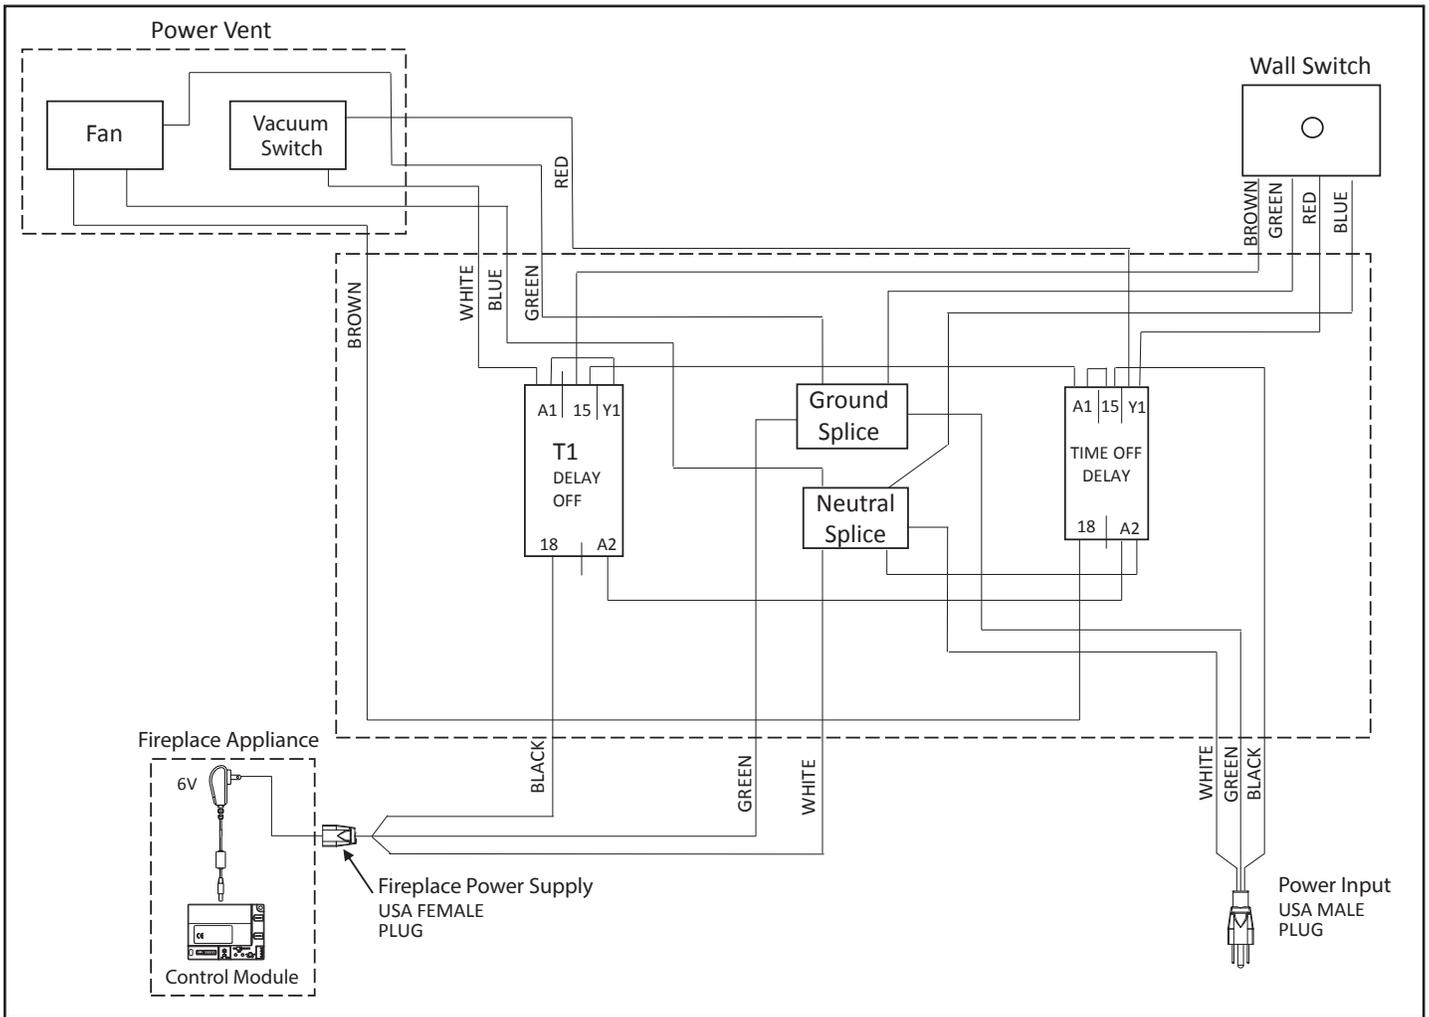
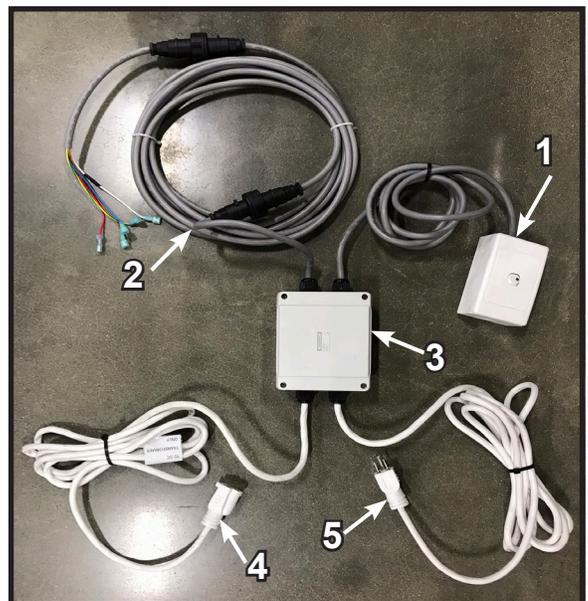

Figure 4.1 Wiring Diagram
Figure 4.2
Figure 4.1 below shows a wiring diagram of the PVLP-SLP-AU wiring harness.
Figure 4.2 shows a photo of the PVLP-SLP-AU wiring harness and timer control junction box. This harness contains all wiring shown in Figure 4.1 wiring diagram. Below describes each wire harness coming from the timer control junction box. Reference numbers in Figure 4.2.
4. Connect extension cord lead from termination cap to female plug (number 2 in Figure 4.2).
5. Unplug 6V transformer from fireplace power cord. Run plug for 6V from timer control junction box inside the fireplace and plug 6V transformer in (number 4 in Figure 4.2).
6. Plug in power input cord from timer control junction box into fireplace power cord where the 6V transformer was (number 5 in Figure 4.2).